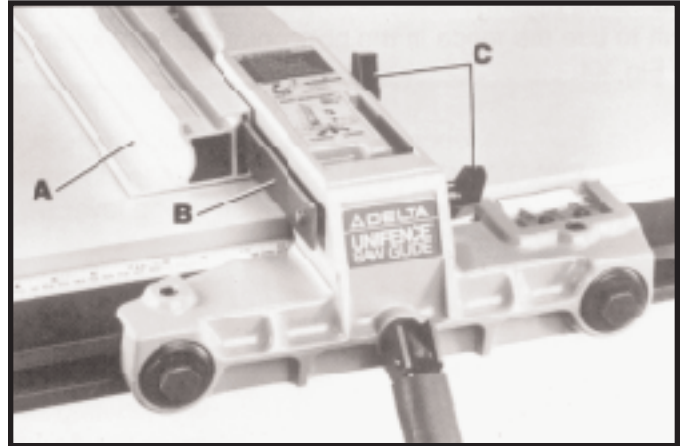
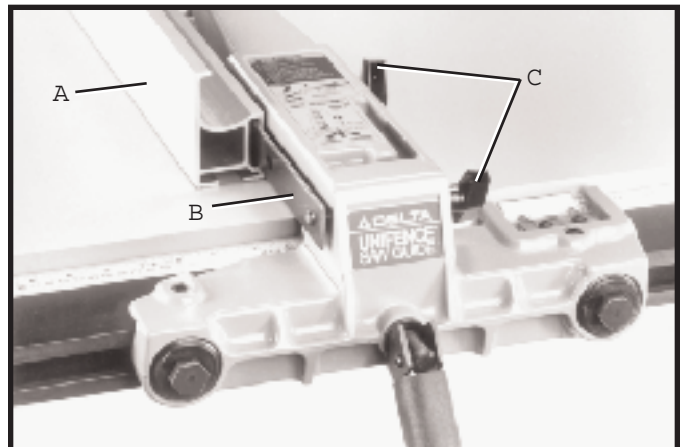

Fig. 47
Fig. 48
1. The fence (A) can be assembled to clamp plate (B) in either the horizontal position as shown in Fig. 47, or the vertical position as shown in Fig. 48. Make certain the two lock knobs (C), are loose and slide fence (A) onto clamp plate (B) as shown. Then tighten the two lock knobs (C).